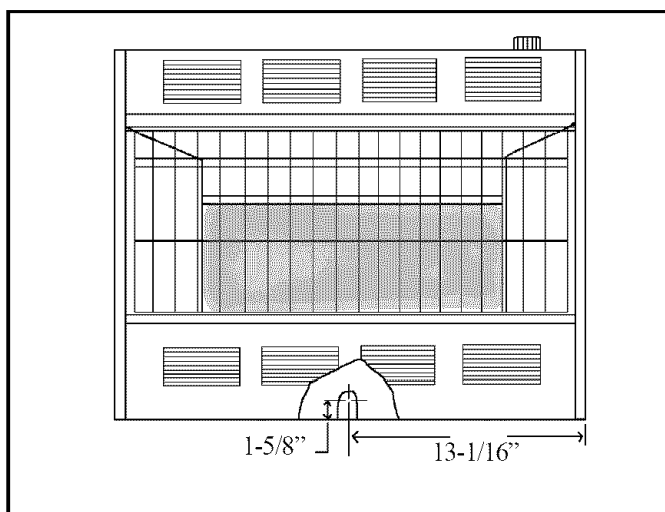

FIGURE 1
- 2) Install at least a 1/2" diameter gas supply line. (Gas supply can enter through bottom or back of heater). See Figure 1.